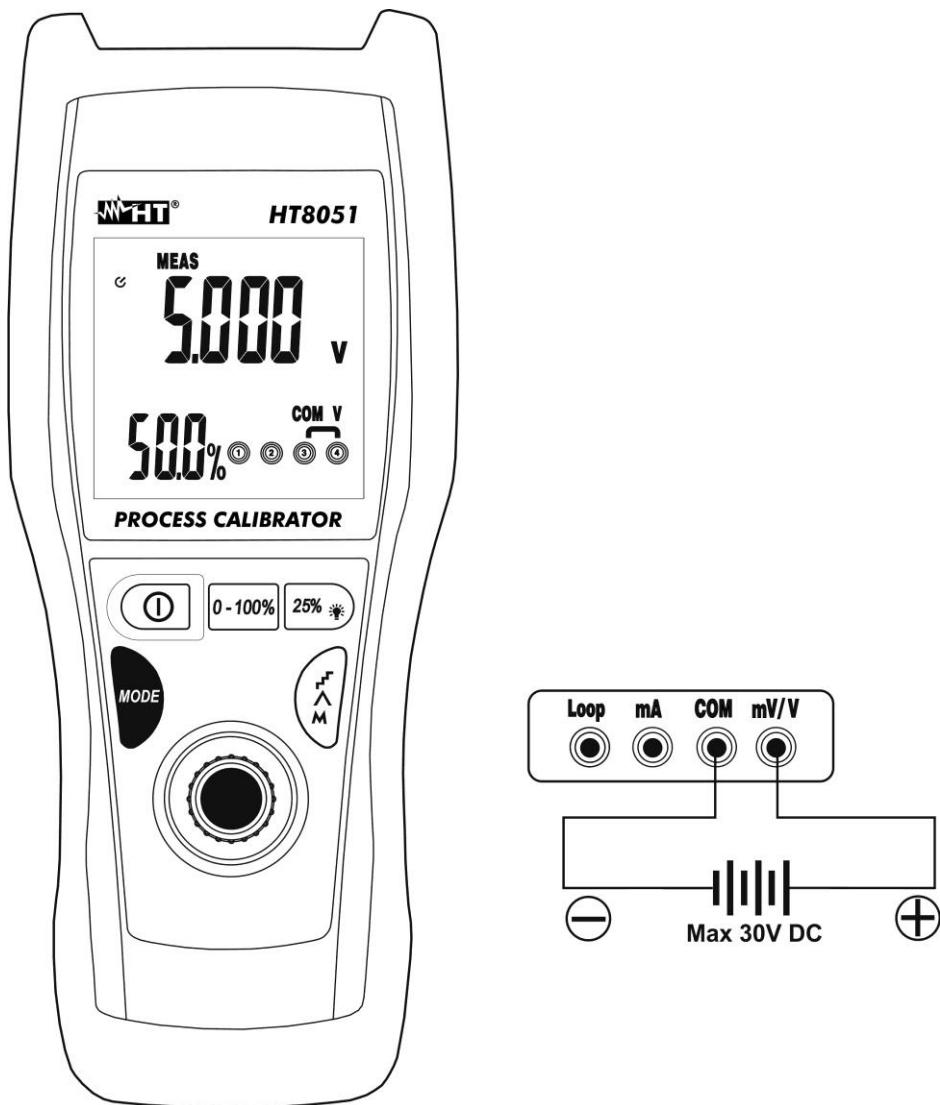

Fig. 3: DC voltage measurement
3. Position the green lead and the black lead respectively in the points with positive and negative potential of the circuit to be measured (see Fig. 3). The value of voltage is shown on the main display and the percentage value with respect to the full scale on the secondary display
4. The message "-OL-" indicates that the voltage being measured exceeds the maximum value measurable by the instrument. The instrument do not perform voltage measurements with opposite polarity respect to the connection in Fig. 3. The value "0.000" is shown at display